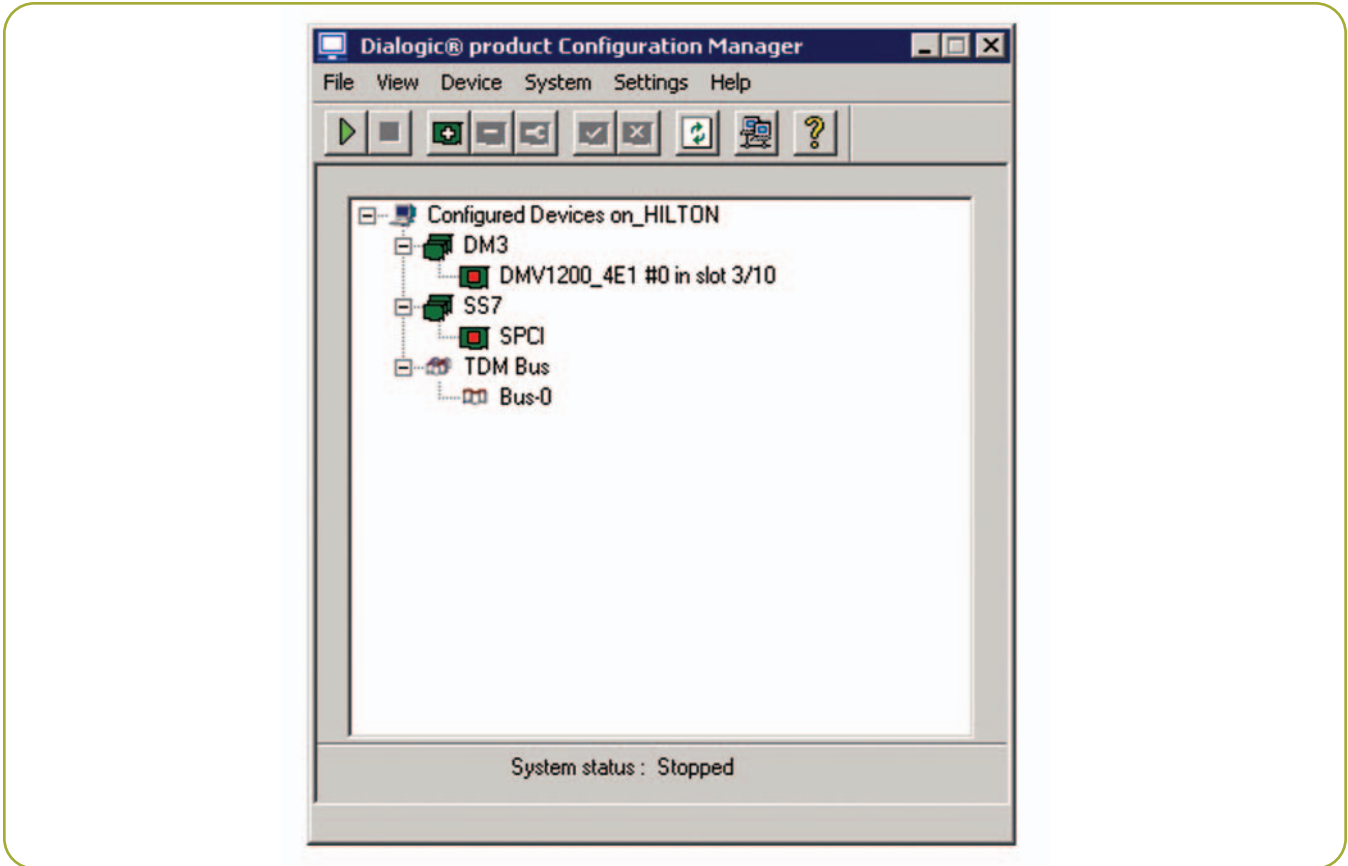

Figure 5. DCM Showing Dialogic® SS7 Board after gcss7.cfg Modifications
1. Once the `gcss7.cfg` has been properly updated, Windows users may close the Dialogic® Configuration Manager (DCM) and re-open it. Then, the SPCI board should appear in the device tree, as shown in Figure 5.